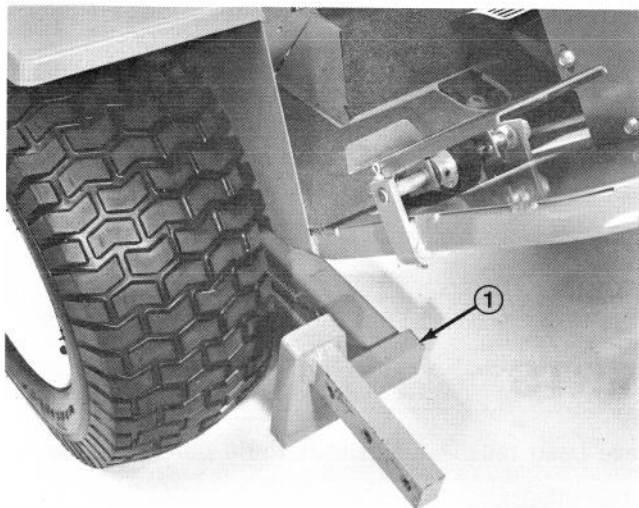

Figure 1
1. Slide a lift arm under traction unit positioning as shown in Fig. 1. Align lift arm with axle bracket hole, insert pivot pin and secure with capscrew, flat-washer, lockwasher and cotter pin (supplied with traction unit).